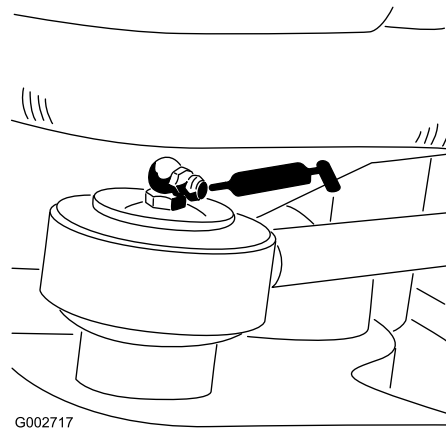

Figure 26
- Steering cylinder rod end (1)—Model 08705 only (Figure 26)